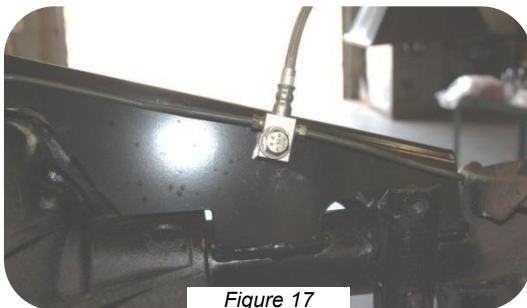

Figure 17
94. Mount rear brake hose to the front side of the truss (see figure 17).
95. Run new hard lines from brake T-fitting to wheel cylinders (see figure 17).